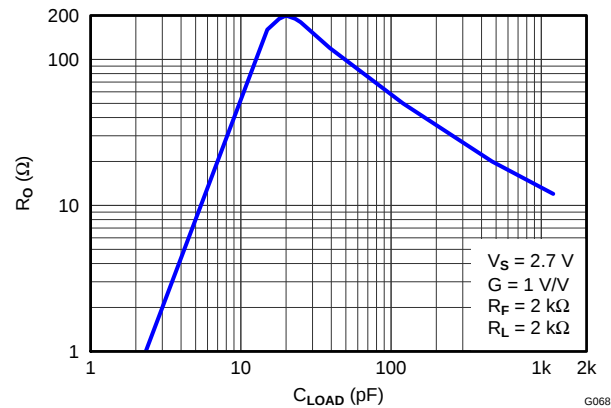
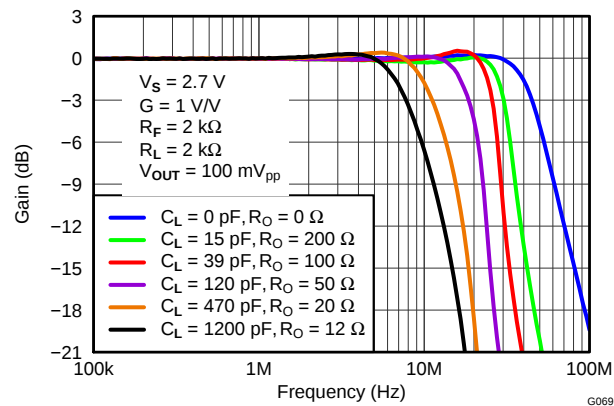

Figure 82. Recommended Series Output Resistor vs Capacitive Load for Flat Frequency Response
Figure 83. Frequency Response for Various R_O and C_L Values
Inserting R_O will compensate the phase shift and restore the phase margin, but it will also limit bandwidth. The circuit shown in Figure 71 is used to test for best R_O versus capacitive loads, C_L , with a capacitance placed differential across the V_{OUT+} and V_{OUT-} along with 2k Ω load resistor, and the output is measure with a differential probe. Figure 82 shows the optimum values of R_O versus capacitive loads, C_L , and Figure 83 shows the frequency response with various values. Performance is the same on both 2.7V and 5V supply.
4. A series output resistor is recommended to be placed as near to the output pin as possible. See Figure 82 "Recommended Series Output Resistor vs. Capacitive Load" for recommended values given expected capacitive load of design.